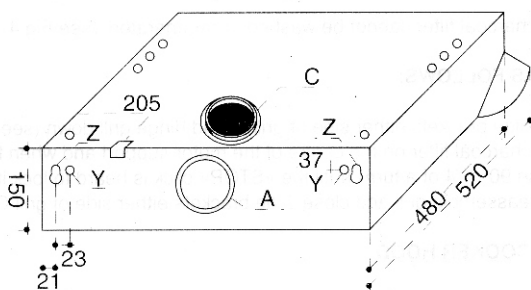

Fig. 1
This appliance is provided with two air outlets, one at the top and one at the rear (see fig.1). Either of these two may be used depending on the limitations imposed by the existing kitchen fitments. The appliance is normally supplied with the top outlet open and provided with a connecting ring C (see fig.1) onto which the external exhausting venting pipe, which should have an inner diameter of 120 mm, must be fitted (not supplied). The rear air outlet is sealed by means of a blanking plug A (See fig.1). If it is intended to use the rear outlet, instead of the top outlet, the following easy changes must be made to the appliance:
- B) Fit connecting ring C (see fig. 1) to the hole and couple it to the venting pipe (which must have an inner diameter of 120 mm).
To mount the hood on a wall use the screws with the expanding plugs supplied. These must be fixed to the wall 35 mm. above the position finally required for the Cooker Hood (remember - 750/650 mm. from the cooking surface to the lowest part of the hood). The hood may now be hung on the wall inserting the screws in the rear holes Z (see fig. 1) then firmly support the hood by screwing in through rear holes Y (see fig. 1).
- A) Drill 4 holes of 6 mm diameter in the bottom of the cupboard at the positions shown (see fig. 1) and one hole of 10 mm diameter for the mains lead.
EXTERNAL EXHAUSTING (See Fig. 1)